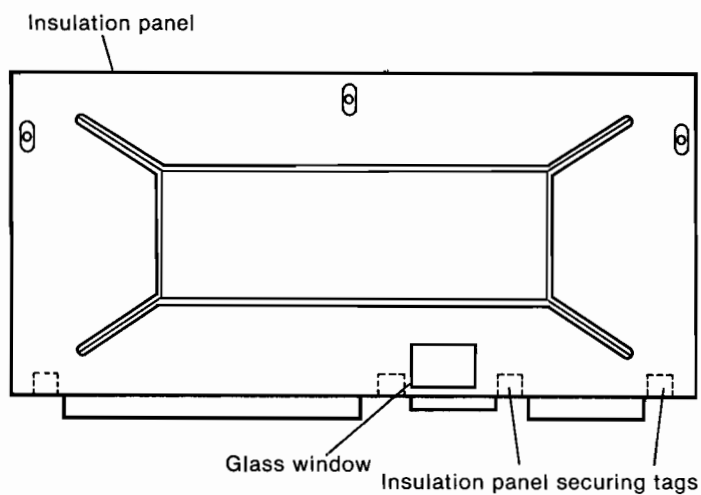

Fig. 51
- l) Pull up the four metal tags which secure the insulation to the front panel (fig. 51).